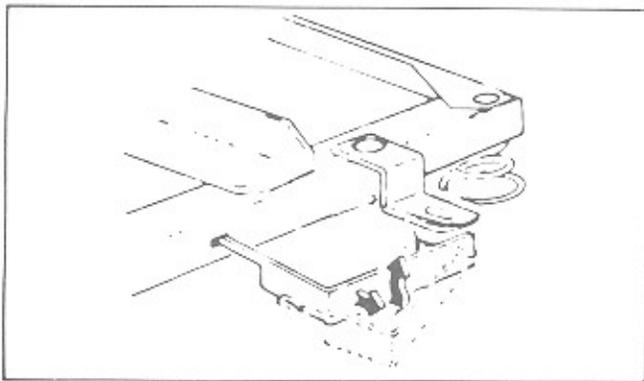

Figure 2-2. Record Changer Tie-Down Brackets
2. Rotate the record changer tie-down brackets away from the mechanism support frame as shown in figure 2-2. Lift up the brackets and remove them.